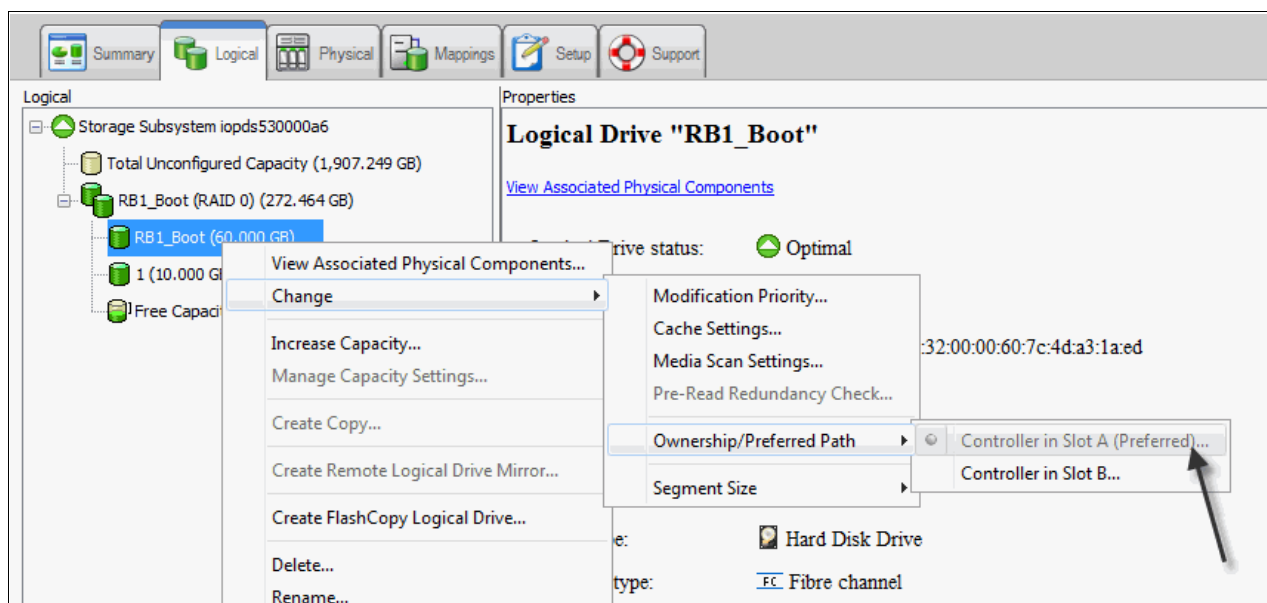

Figure 2-59 Changing the path to Controller A
- After the logical drive is created, you need to make sure that the logical drive is on the path that you will booting from. When creating the logical drives, the DS5000 series system staggers the ownership to controller A first and then B second. However, when we are configuring SAN Boot, we need to have all the logical drives that we are booting from, on controller A in our setup, as shown in Figure 2-59.